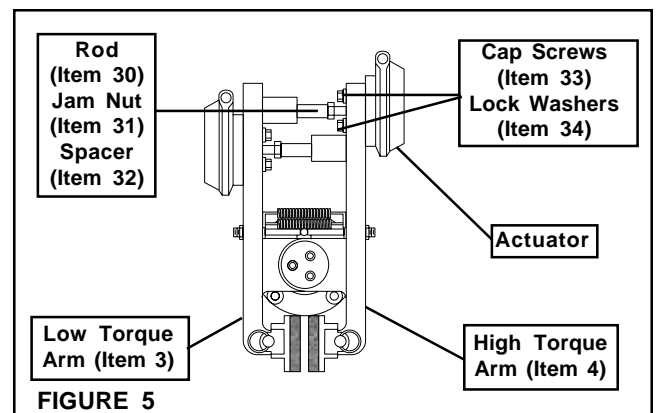

FIGURE 5
1. Insert the Rod (Item 30), Jam Nut (Item 31), and Spacer (Item 32) into the Actuator (See Figure 5).
Mount this assembly on either the Low Torque Arm (Item 3) or the High Torque Arm (Item 4) (See Figure 5).
2. Install the Cap Screws (Item 33) and the Lock Washers (Item 34) (See Figure 5).